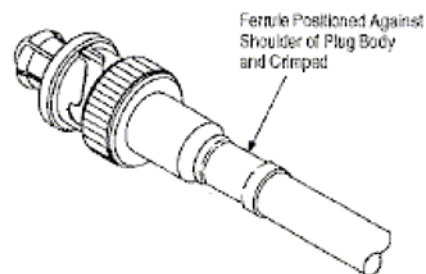

Figure 5
6. Slide ferrule forward over cable braid until it is positioned against the shoulder of the plug body. Crimp the ferrule using recommended crimping tool. Refer to the instruction sheet packaged with the tool for specific crimping instructions. See Figure 5.